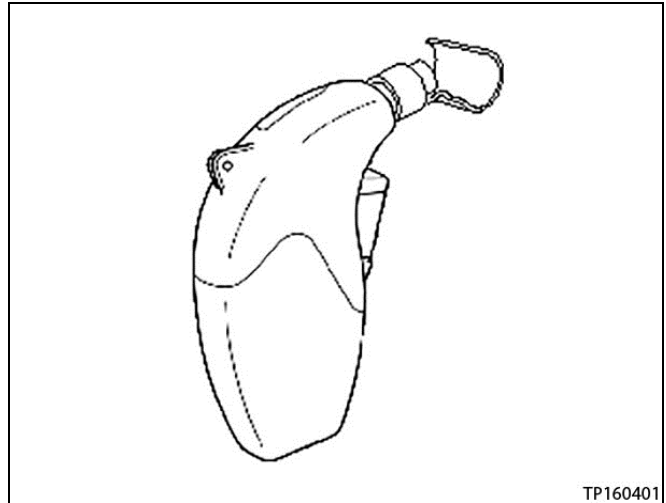

Figure 34
28. "Install" the solder sleeve connector by shrinking it to the wire with essential tool Flameless Heat Gun J-46538 or similar flameless heating tool (see Figure 34 and 35).